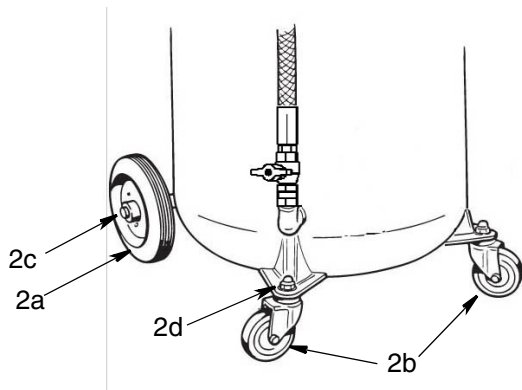

FIG. 7
1. Install large wheels (2a) on axle. Install washer and hex-head bolt (2c) (FIG. 7). Tighten bolt.
2. Install rear caster threaded post (2b) (FIG. 7) through hole in wheel bracket. Install washer, lock washer, and crown nut (2d). Tighten.